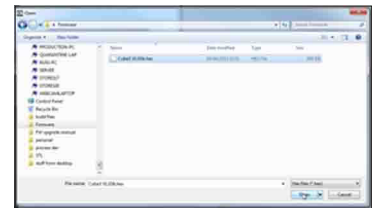

Fig. 119
- The CubeX software will then open windows explorer. Navigate to the firmware you wish to install and open it. (Fig. 119)